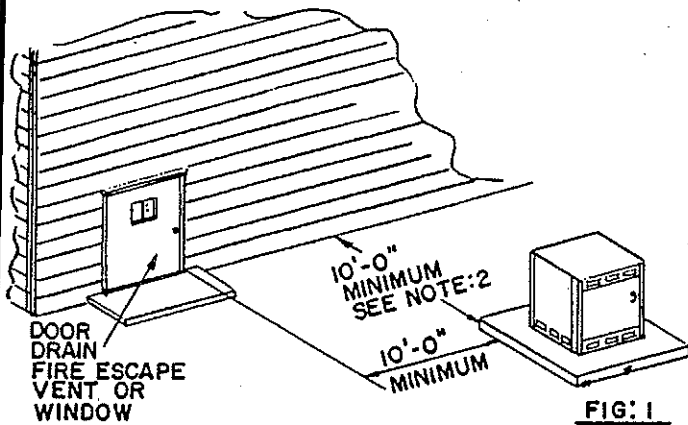

FIG: 1
3. MAY BE LESS IF PERMANENTLY CLOSED BY MASONRY, BRICK, GLASS BLOCK OR FIRE RESISTANT WIRED GLASS, OR IF HORIZONTAL CLEARANCES IN FIGURE 1 ARE OBTAINED.